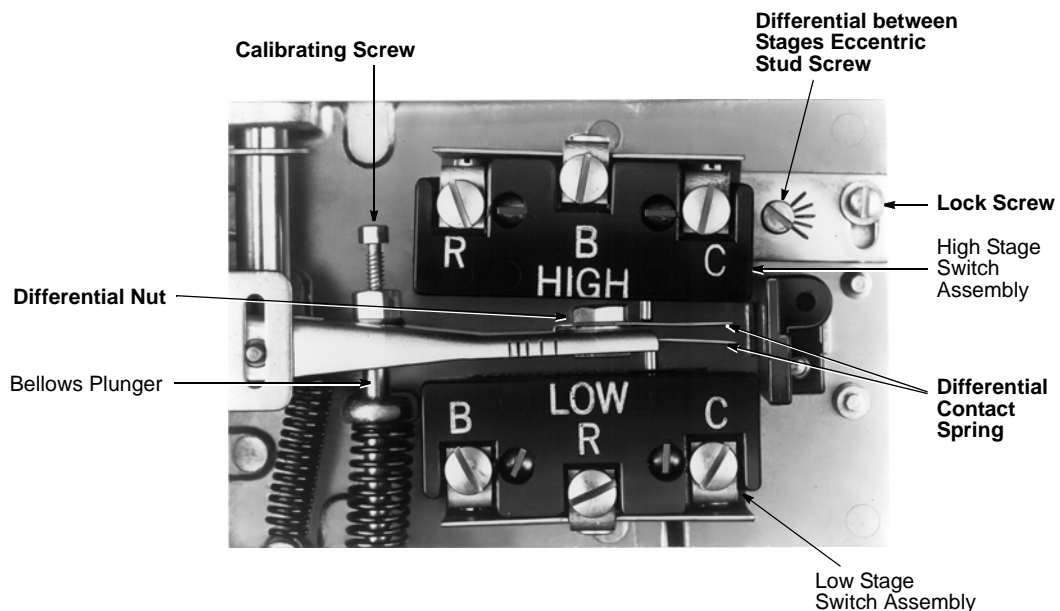

Figure-12 Adjusting Differential between Stages.
The differential between the “R” and “B” contacts of the SPDT switches is easily adjusted by moving the contact spring on the thermostat arm (see Figure-12). The differential may be varied by loosening the differential nut and sliding the contact spring to the left to increase the differential (or to the right to decrease the differential). This varies the tension brought to bear on the switch trip pin and adjusts the differential between approximately 1.5°F and 7°F. Factory set at minimum. Each division represents approximately 1°F. This adjustment may have some effect on the differential between stages and therefore should be the first adjustment made in resetting the differential of the controls.
The differential between high and low stages is easily adjusted by loosening the lock screw and rotating the eccentric stud (see Figure-12), which physically changes the distance between the trip pins on the high stage and low stage switches. Turning this eccentric stud CW decreases differential while turning CCW increases differential. Adjustable between approximately 0°F and 20°F. Factory set at 3°F. Each division equals approximately 5° differential between stages.
3. Turn calibration screw (see Figure-12) until the switch actuating points, as indicated by the dial of the low stage switch, straddle the bulb temperature. For example, if differential of the switch is set at 2°F and bulb temperature is 70°F, the readings for "R" and "B" switch action on the low stage switch would be 69°F and 71°F, respectively.